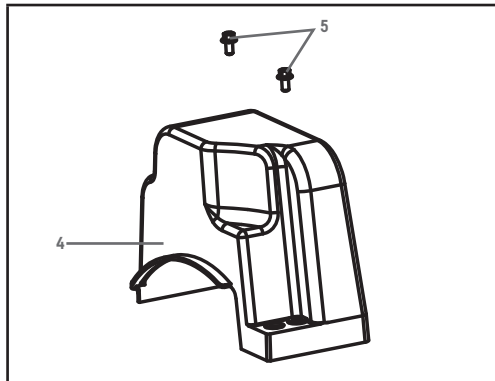

Figure 26
10. Install the plastic belt cover (4) on the front of the engine using two M6 × 16 bolts (5) set aside from an earlier step. Tighten until snug. Do not overtighten or you risk damaging the plastic belt cover (Fig. 26).